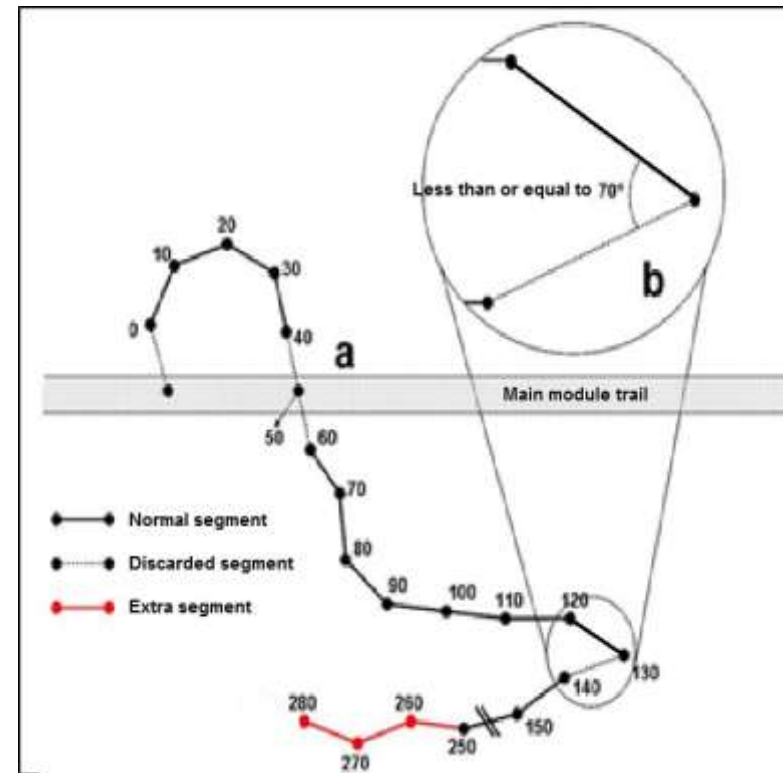

Figure 6: a. Plot crosses main trail
- 1) **CROSSING THE MAIN TRAIL.** Depending on the topography the centerline may cross the main trail of the module. Since the vegetation will have been altered, this section cannot be considered as an effective part of the survey. 10m sections that are inconsistent should be discarded and added to the end of the plot. See figure 6.
segment of the angle should be discarded and added on to the end of the plot as shown in Figure 6.